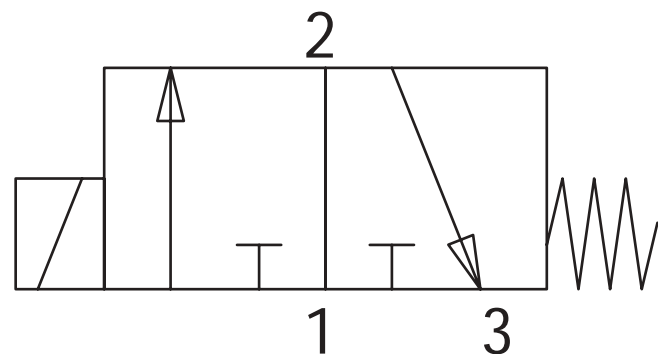

**Figure 21**
5. Install guard kit (**Figure 21, item 1**) with button head screws (**Figure 21, item 2**) on both sides.